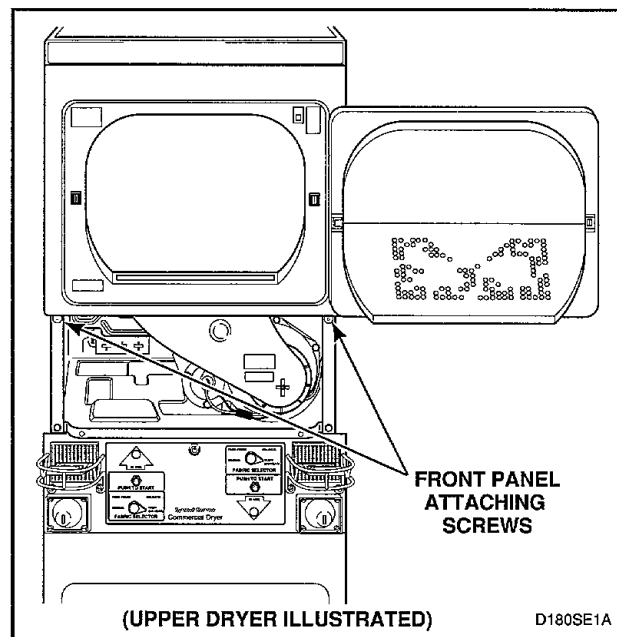

Figure 10
- LOWER DRYER** — Remove two screws holding bottom tabs on front panel to dryer cabinet, *Figure 10*. Swing bottom of front panel away from dryer to disengage hold-down clips and guide lugs from control cabinet.
- Remove two screws holding bottom tabs on front panel to dryer cabinet, *Figure 10*. Swing bottom of front panel away from dryer to disengage hold-down clips and guide lugs from cabinet top.